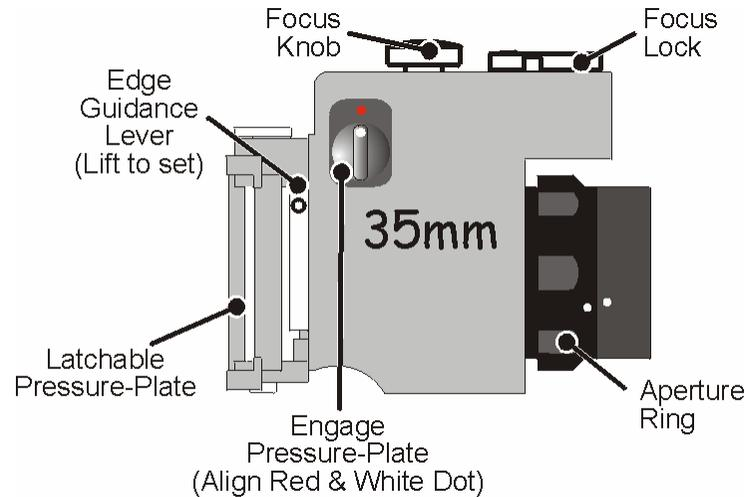
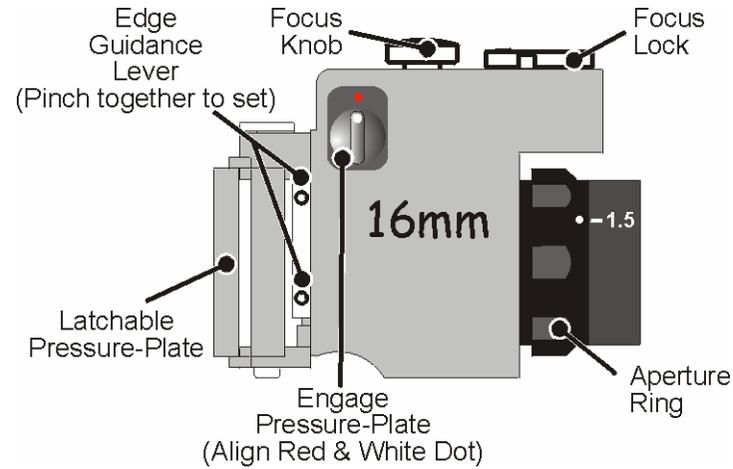

Figure 100 35mm/S35 Gate
Figure 101 16mm/S16 Gate
The film scanner can accommodate both 35/S35 and 16/S16 gates (shown in Figures 100 and 101 respectively). Provision is made to store one gate behind the Upper Control Panel.
- The aperture on the 35mm gate should usually be set fully open. To ensure that the gate aperture is set fully open, rotate the aperture ring to the end of its travel so that the dot on the ring is at its lowest point as shown in Figure 100.
- The lens on the 16mm gate should usually be set to 1.5. To ensure that the gate aperture is set to this position, rotate the aperture ring so that the dot on the ring is adjacent to -1.5 as shown in Figure 101.
Gates are fitted with edge guidance lever/s, one lever on the 35/S35mm gate (see Figure 100) and two on the 16/S16mm gate (see Figure 101). These are operated after film is laced through the gate to ensure the film is correctly seated on the skid plate.
A latchable plate is fitted to each gate that is used to apply a pre-determined down-force to the film as it passes over the skid plate. This is intended to be used as a focusing aid for bowed stock as it helps to flatten the film. The plate is activated by the actuating knob shown in Figures 100 and 101.